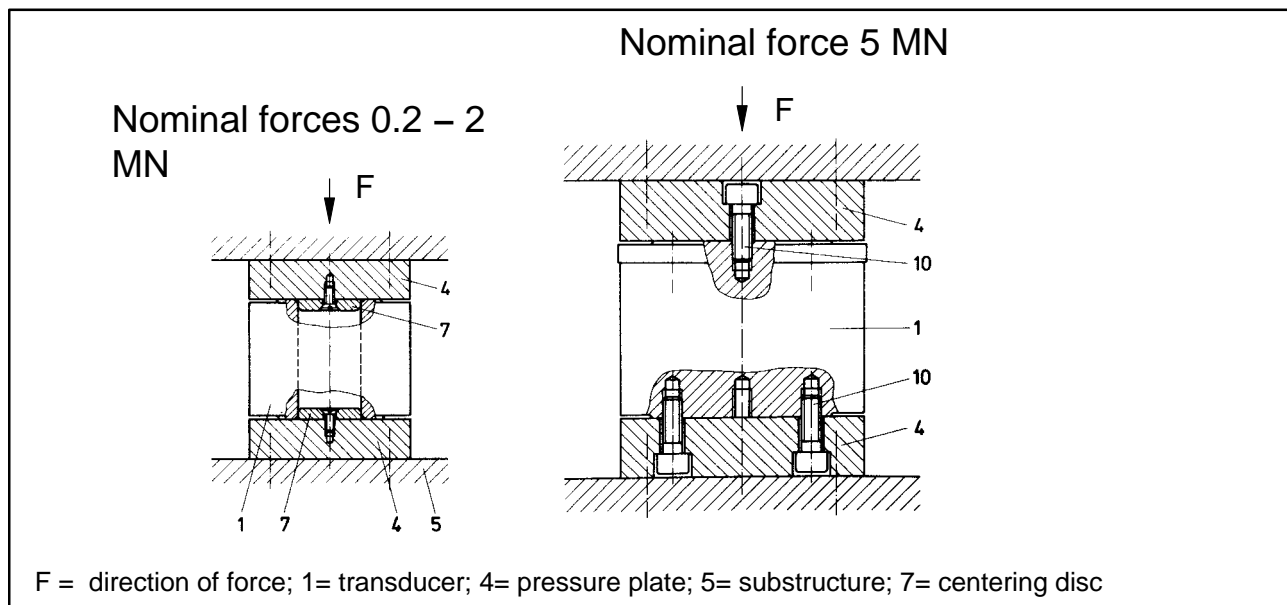
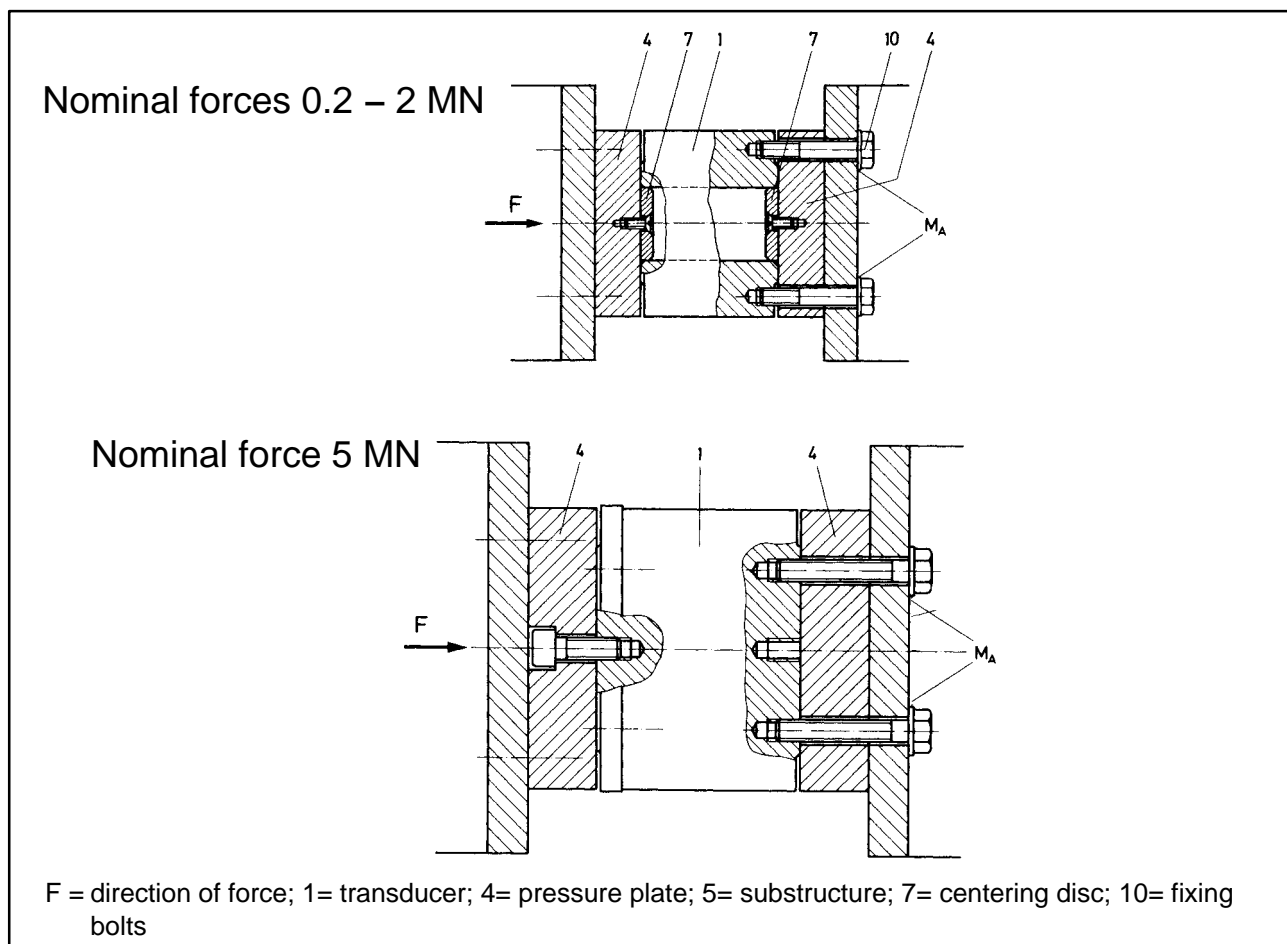
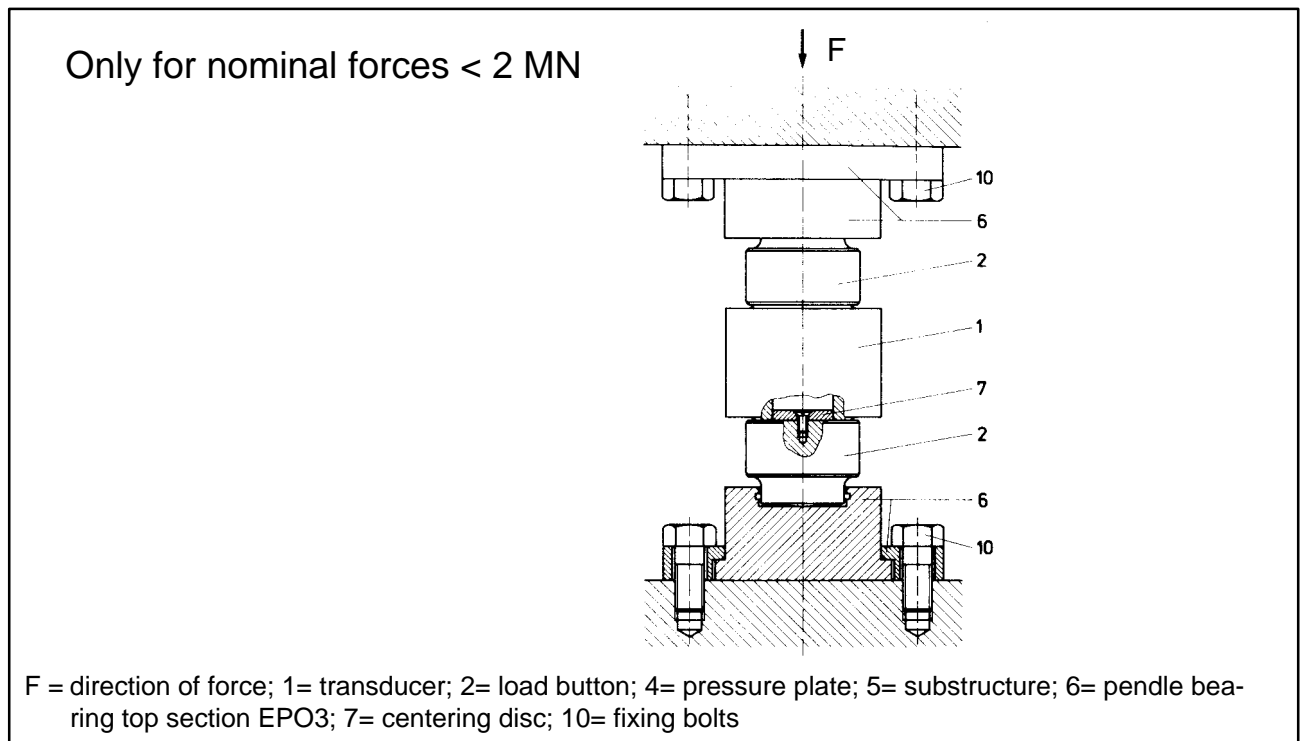

Abb. 5.1: Direction of force vertical
Abb. 5.2: Direction of force horizontal
Abb. 5.4: Installation with pendle bearing EPO3
Heat expansion of the structure between several bearing points where the transducer is rigidly installed may also cause transverse stresses. If necessary they can be remedied with HBM mounting accessories (section 5.3, Abb. 5.4). The following mounting accessories are available from HBM for transducers in the C6A range:
This type of installation (Abb. 5.1 and Abb. 5.2) is possible with a central force conductor and if no transverse forces occur.
When planning the structure ensure that the pressure plates (4) (see Abb. 5.1 to Abb. 5.4) are hardened ($HR_{C42 - 46}$) and ground so as to be plan-parallel (evenness ± 0.02 mm) (for minimum thickness see table below). The substructure must be sufficiently unyielding. To centre the transducer with nominal loads ≤ 2 MN it is recommended that centering discs (7) are used (see Abb. 5.1 to Abb. 5.4). The exact dimensions of these discs which are to be produced should match those of the centering discs of the loading heads (section 8.2). If the transducer is fixed with the fixing bolts (10) (see Abb. 5.1, Abb. 5.2 and Abb. 5.4) ensure that when the fixing bolts are screwed in the maximum tightening torque M_A specified in the table below is not exceeded.
The execution as a pendle bearing shown in Abb. 5.4 allows lateral shifting of a bearing point (max. diagonal position of the pendle bearing axis approx. 1 to 2°).